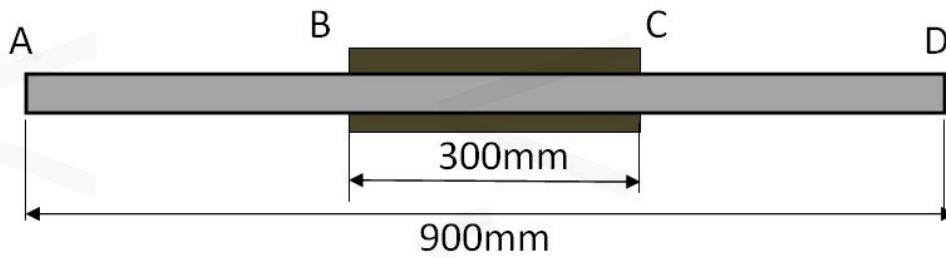

Figure 3
- 13 A steel rod AB of length 900mm and diameter 25 mm has a bronze sleeve BC of length 300mm and external diameter 30 mm securely bonded to it as shown in fig:3. For a rise in temperature of 200 degree Celsius, calculate: